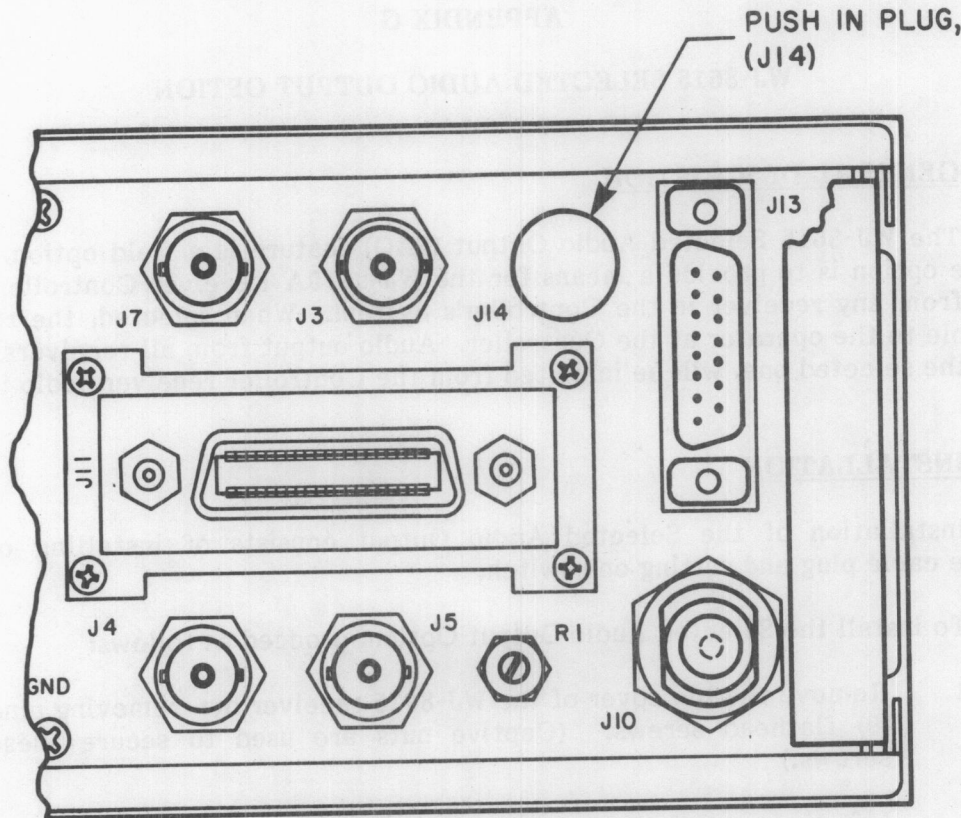

Figure G-1. Rear Panel Illustrating J14
2. Use **Figure G-1** to locate the press-in plug used to cover the option hole marked "J14", on the rear panel of the receiver.